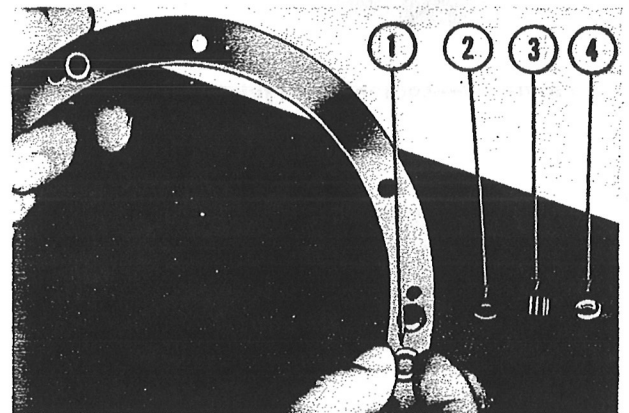

Figure 57—Removing Control Screw Seals
(8) Disassemble the adapter ring by removing the cup washer, spring, flat washer and "O" ring seal from each of the control screw holes. (See figure 57.)